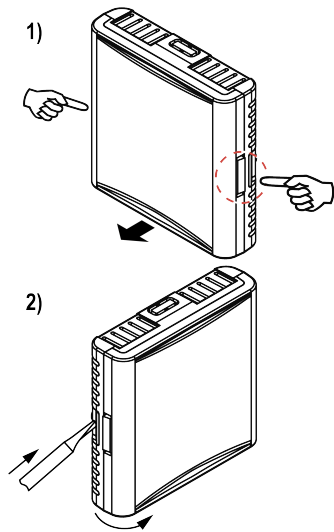

Fig. 7 – Removing the cover
1. Simultaneously press the latches on the device cover with the thumb and middle finger of one hand and pull the cover (see Figure 7 (1)) or insert a flat screwdriver home into the groove of the bracket, along the bevel of the latch, and remove the cover (see Figure 7 (2)).